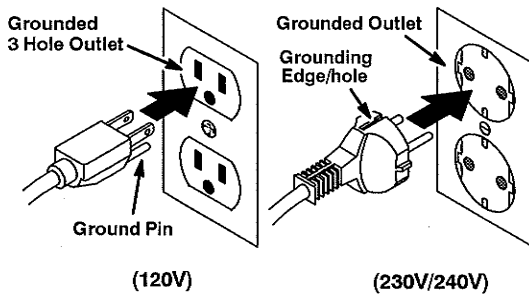

FIG. 4
7. Plug machine's power cord into a grounded wall outlet (Figure 4).